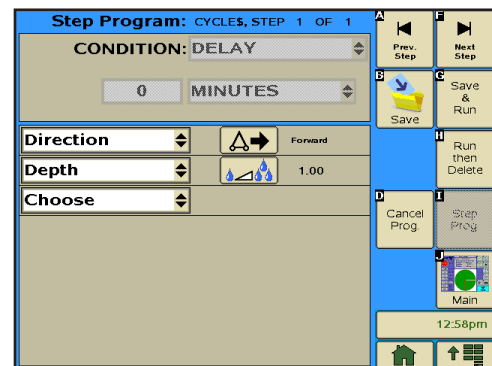

Figure 170-3
5. Enter the commands to be executed. Refer to Figure 170-3.